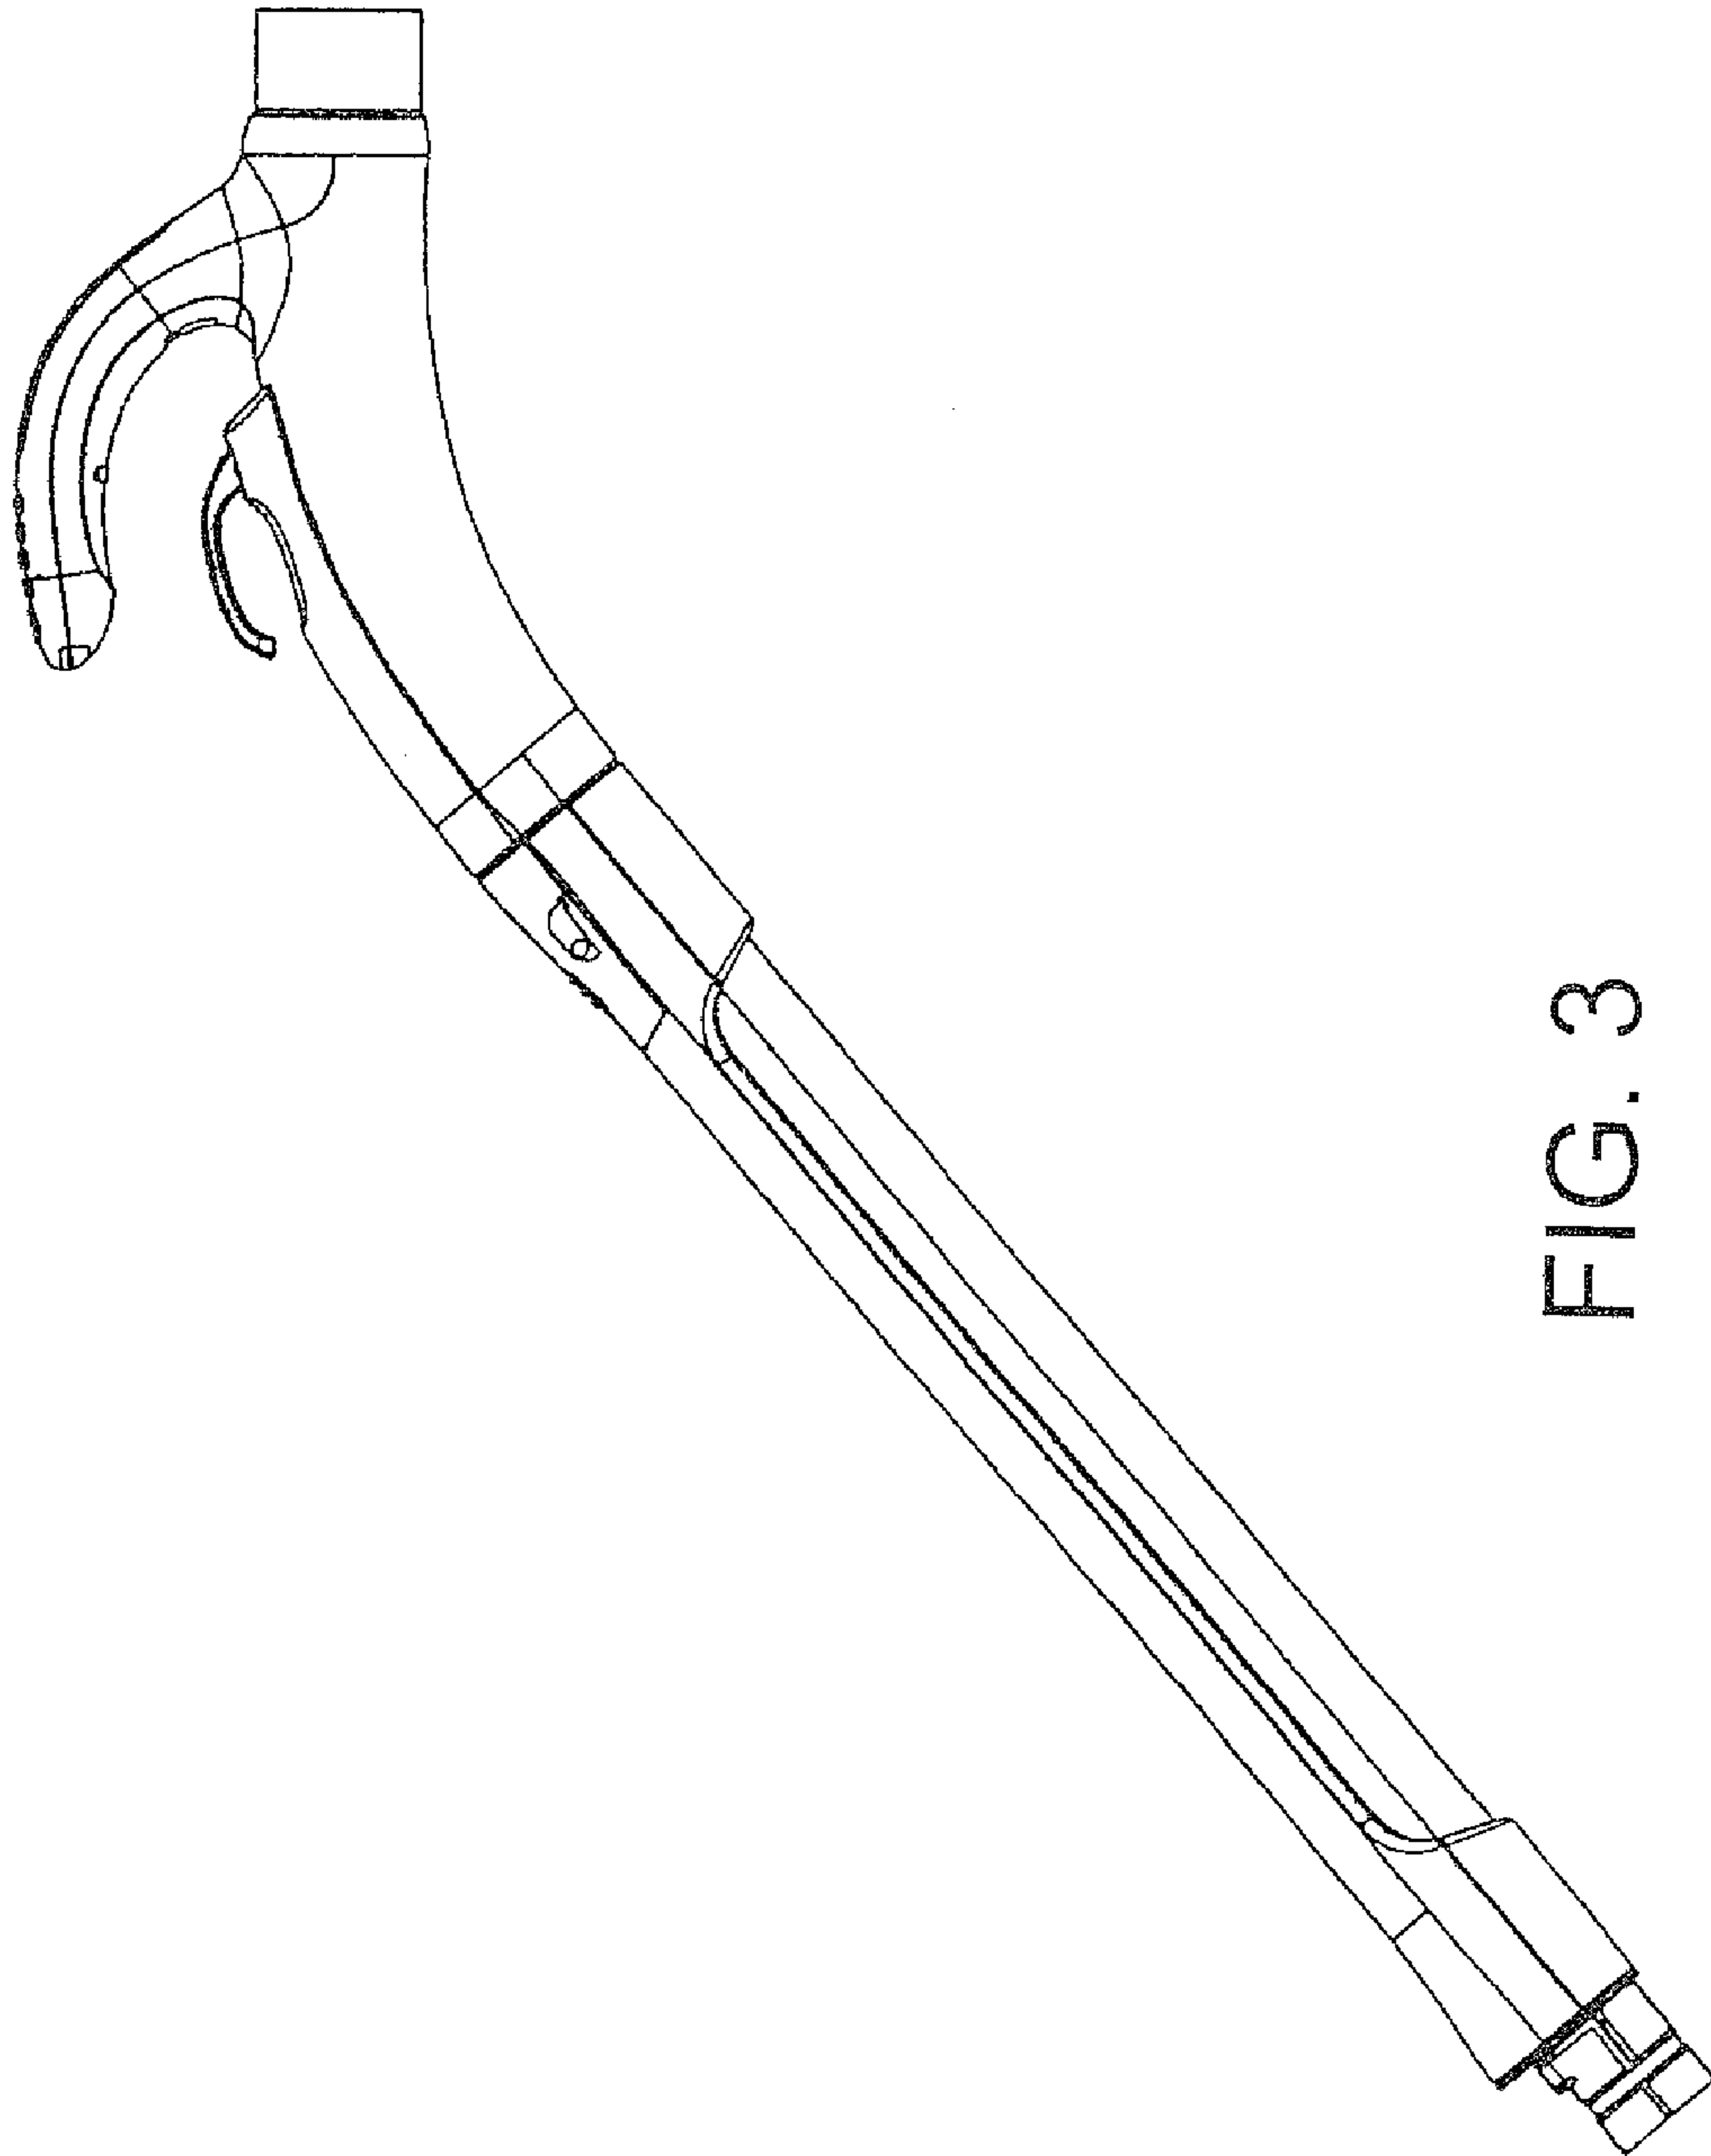

FIG. 3
- FIG. 3 is a right side view in a closed position;